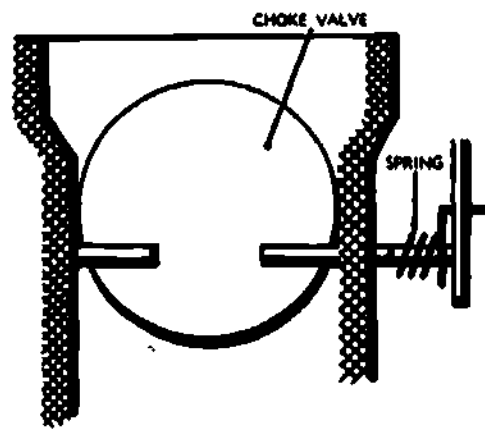

Fig 1-32. Choke valve.
- (a) **Manual choke (fig 1-32).** To operate a manual choke, the driver usually pulls a cable that closes the choke valve. Closing the valve completely shuts off the supply of air, but remember gasoline must have some air in order to burn. The needed air is admitted by one of two different methods.
soon as the engine is cranked, a very high vacuum is created under the choke valve. This allows the higher outside air pressure to open the poppet valve, permitting air to enter the engine cylinders. In the second method (fig 1-32) the valve is operated by means of a coiled spring on the choke shaft. With the choke closed and the engine cranking, air pressure will overcome the spring tension and open the choke valve slightly to supply some air. As the engine warms up, the driver gradually opens the choke to supply a leaner mixture.